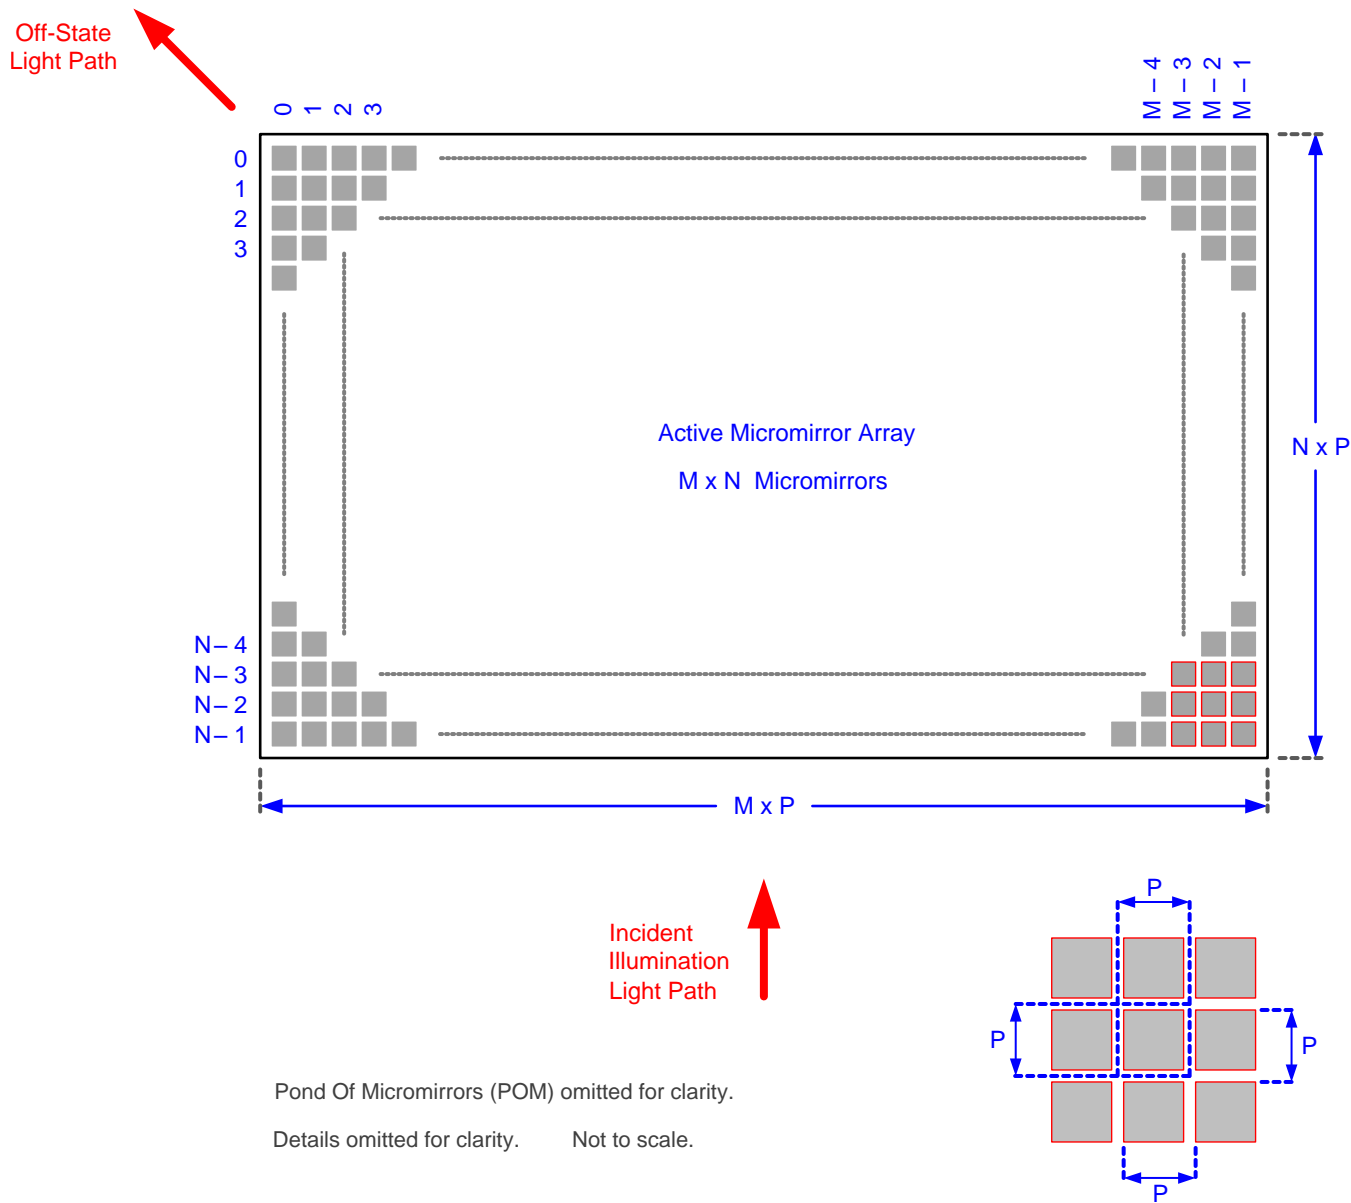

Figure 8. Micromirror Array Physical Characteristics
- (1) See Figure 8.
- (2) The structure and qualities of the border around the active array includes a band of partially functional micromirrors referred to as the pond of micromirrors (POM). These micromirrors are structurally and/or electrically prevented from tilting toward the bright or ON state but still require an electrical bias to tilt toward the OFF state.